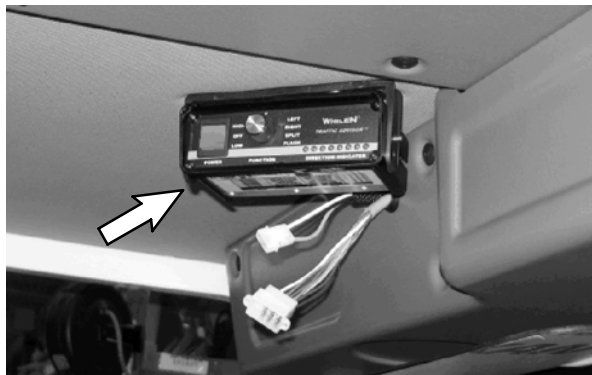

FIG. 4
6. Use two hex screws (11), four flat washers (8), six hex nuts (10)-use as spacers, and two hex nuts (9) to install the controller included with the light assembly (1) to the cab. Refer to Fig. 4.